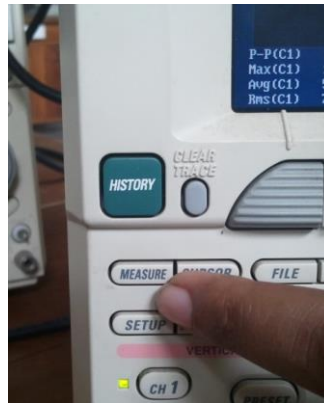

Figure 14: Measure Button
1. Press the “measure” button as shown in Figure 14.